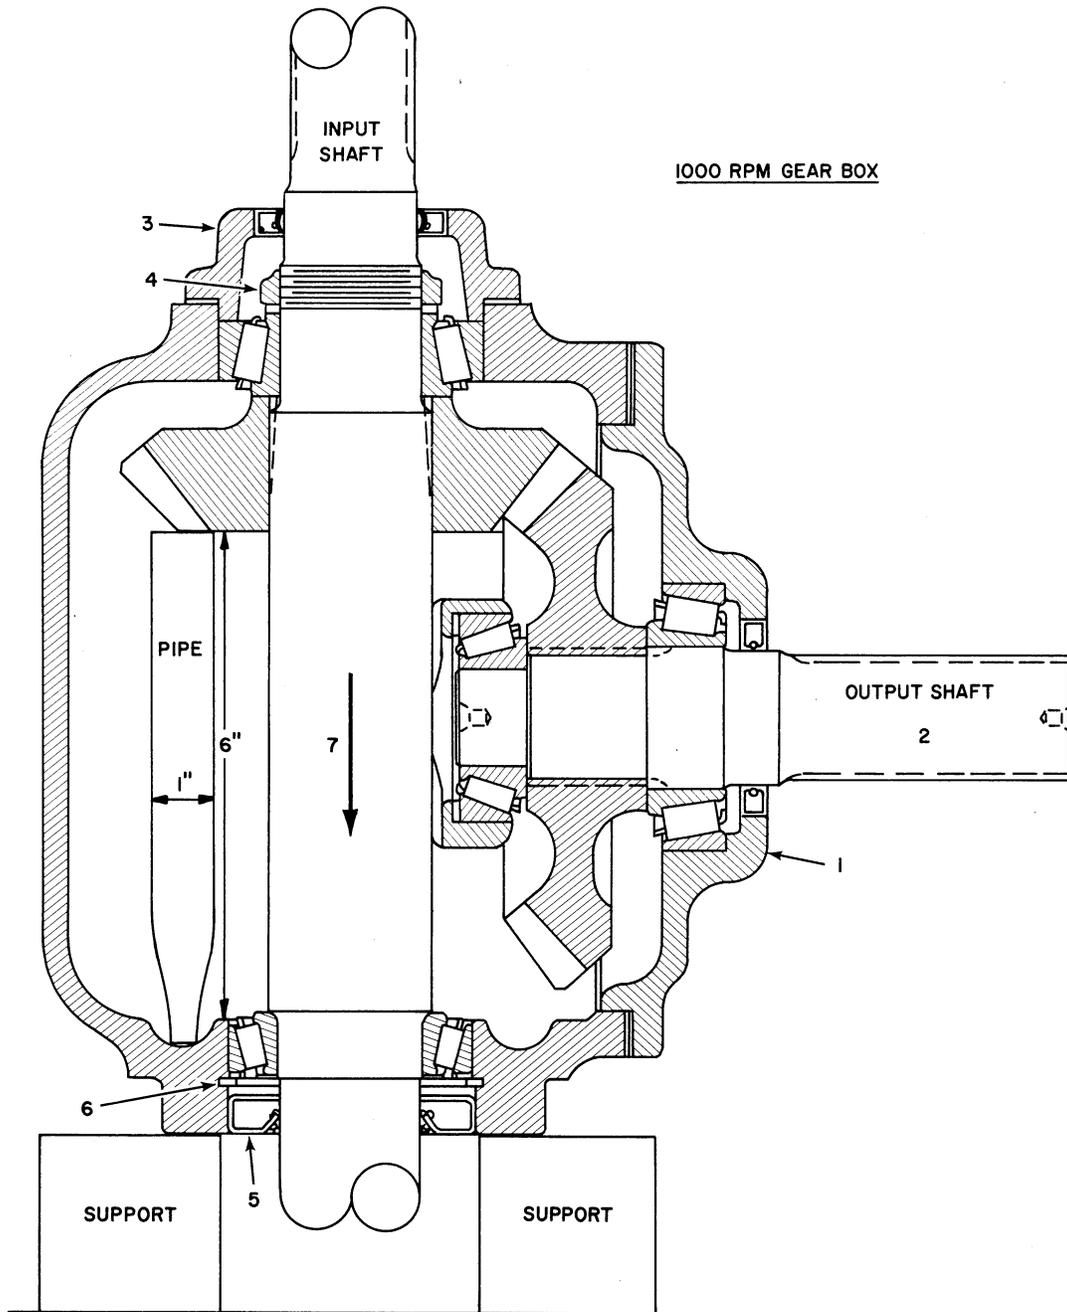

FIGURE 1
1. Remove the six cap screws from the cover plate, item 1, Figure 1.
2. Both the cover plate, item 1, and the output shaft, item 2, can be removed from the gear box.
3. Remove the end cap housing, item 3.
4. Use a punch and remove the stake nut and flat washer, item 4.
5. Remove the oil seal, item 5, Figure 1, as shown.
6. Remove retaining ring and whatever shims are behind the retaining ring, item 6, Figure 1.
7. Remove the input shaft from the gear box, Figure 1. The bevel gear on this input shaft was pressed on with approximately 5000 pounds of pressure which means that care must be used to prevent breakage of parts when removing the input shaft from this gear. Make two supports from 1" pipe, 6" long, and use a vise to crimp the one end of the pipe so the pipe will sit squarely on the bottom of the gear box housing as shown.
Then position the gear box on top of two supports as shown in Figure 1. A hydraulic press is recommended to remove the shaft in the direction indicated by the arrow in Figure 1.